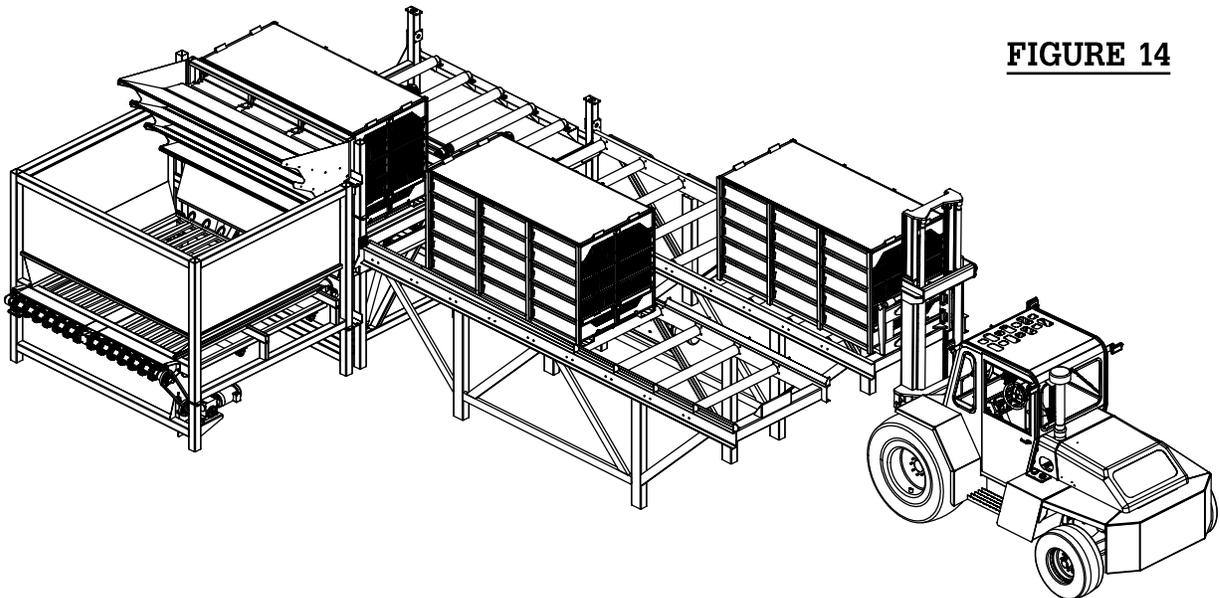

FIGURE 14
14. The forklift operator can remove the empty cage from the outgoing conveyor at this time. (See Figure 14)